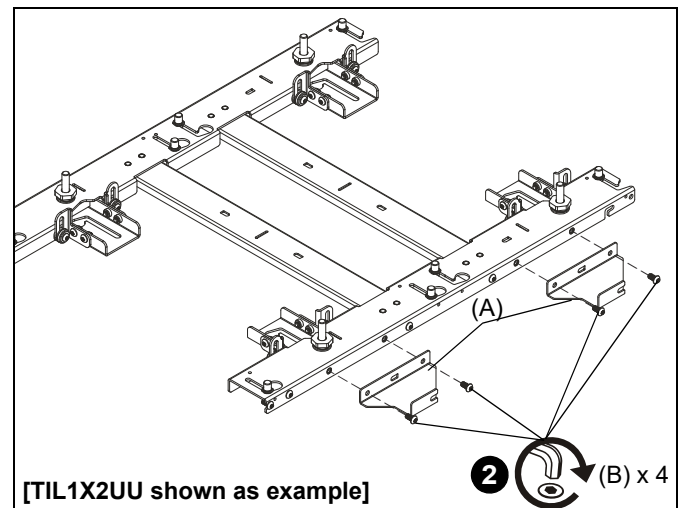

Figure 3
**NOTE:** The horizontal connectors (A) must be attached if the LED wall will be wider than one mount.
1. Lay mount on floor and place horizontal connectors (A) against right edge of wall mount. (See Figure 3)
2. Attach two connectors to each wall mount using two 1/4-20 x 1/2" button head cap screws (B) per horizontal connector. (See Figure 3)